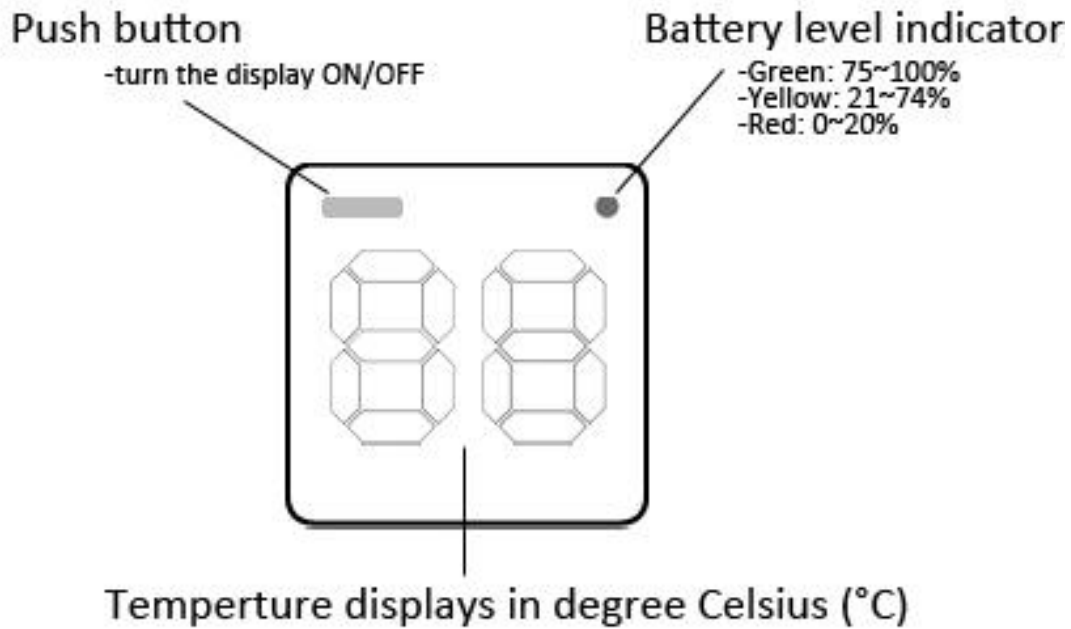

Figure 2 Top view of the complete product
- Face (1):** Display interface shown in Figure 2.